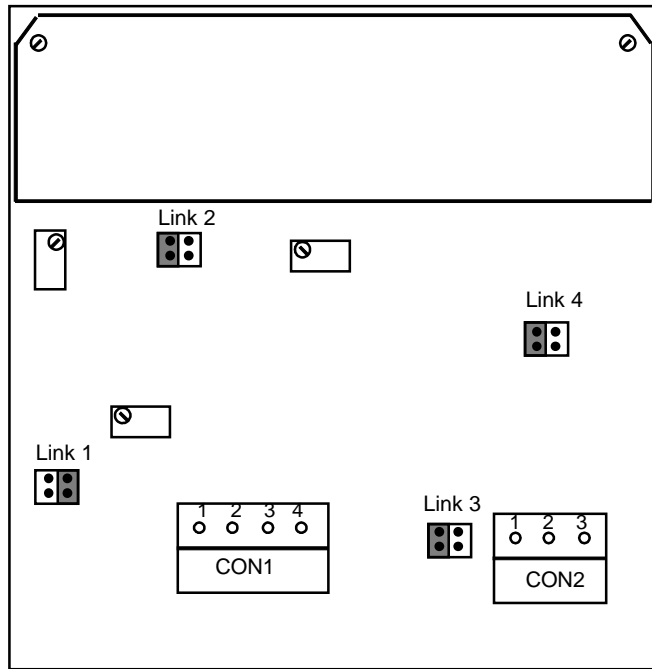

Fig. 3.1 - Internal Option Links
- 3.3.5 Referring to the internal label or fig. 3.1, locate the frequency link "link 2". Move the link to the 5kHz position (ref. table 3.1).
- 3.3.6 Referring to the internal label or fig.3.1, locate the output filter selection links "link 3" and "link 4". Move link 3 and link 4 to the 250Hz position (ref. table 3.2).
- 3.5.5 Referring to the internal label or fig. 3.1, locate the frequency link "link 2". Move the link to the 2.5kHz position (ref. table 3.1).
- 3.5.6 Referring to the internal label or fig.3.1, locate the output filter selection links "link 3" and "link 4". Move link 3 and link 4 to the 110Hz position (ref. table 3.2).